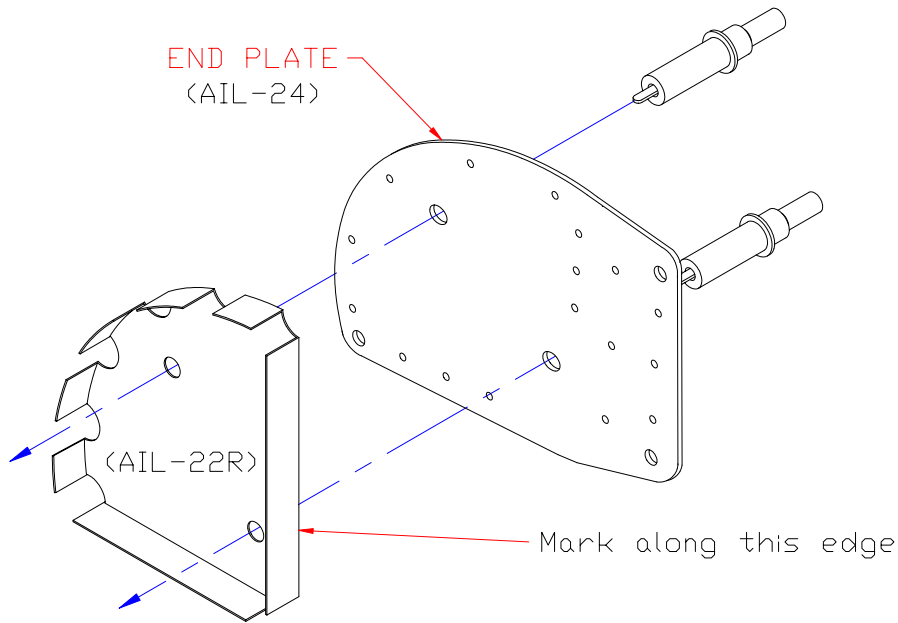

Figure 7.1.1
- 2) Cleco an End Plate (AIL-24) to a Leading Edge Rib (AIL-22R). The two #11 tooling holes in the Rib will match the #11 holes in the End Plate. Mark along the edge of the Leading Edge Rib using a black felt pen. Remove the End Plate. Figure 7.1.1.